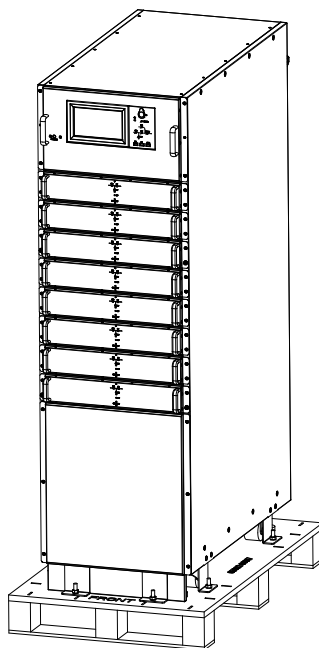

Figure 3-3 Remove the protective foam
- 3) Open the top plate of the steel-edged wooden case with slotted awl and pier, followed by sideboards (see Figure 3-3);